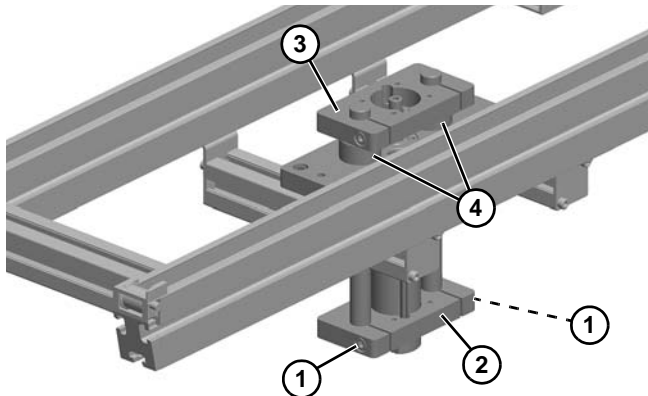

Figure 105
5. Loosen socket head screws (**Figure 105, item 1**) and remove bottom plate (**Figure 105, item 2**).
6. Remove top plate with shafts (**Figure 105, item 3**) from bearings (**Figure 105, item 4**).